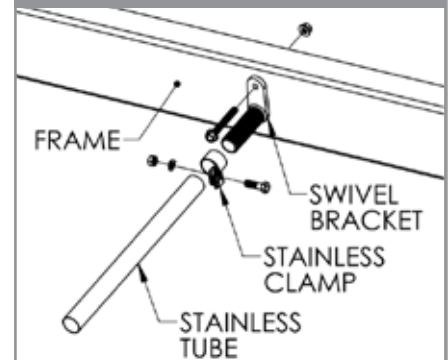

FIGURE 8
- Place the (10003106A) plastic end cap into the end of the stainless tube. (See Figure 8)